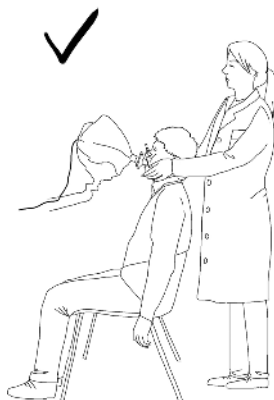

Figure 52 - Correct position for FOT measurement
- The patient should be sitting, back straight and neck slightly flexed upward. Adjust the height of the device so that correct patient position is assured (Figure 52).